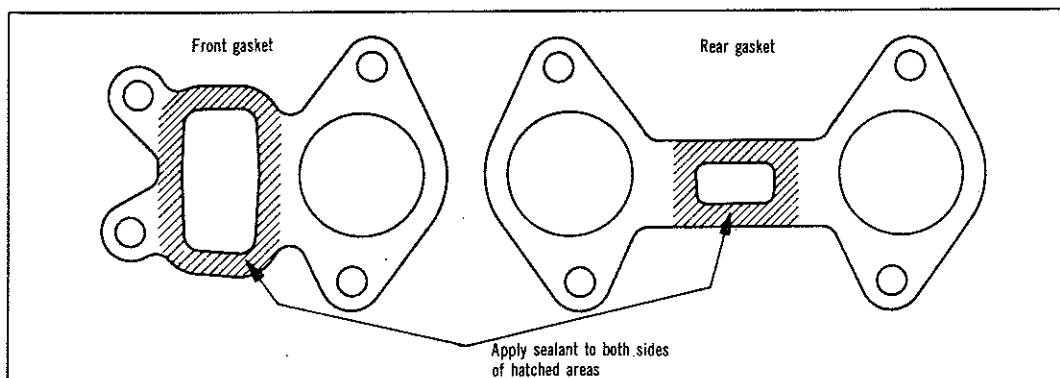

Fig. 2—Intake manifold gasket sealing points—early type gasket shown.
(1) Fit new gaskets where necessary and apply sealer to the front and rear intake manifold gaskets as shown in Fig. 2.